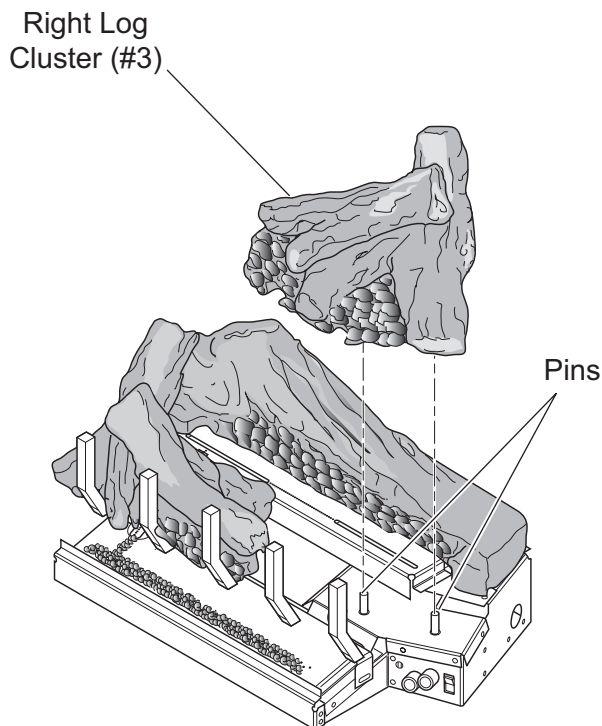

Figure 28 - Installing Right Log Cluster (#3)
3. Install right log cluster (#3) on two pins located on right side of base. See *Figure 28*.